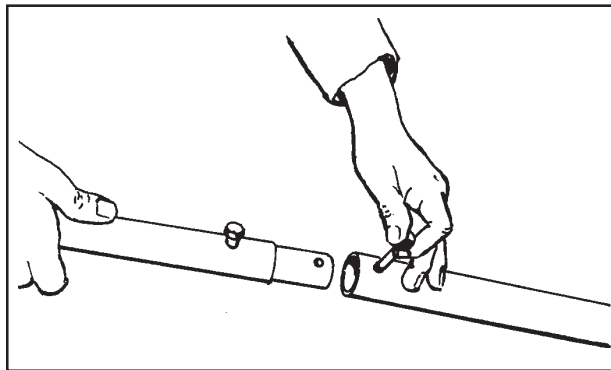

Figure 1
1. Connect the handle sections together with two hexagon screws (see figure 1).